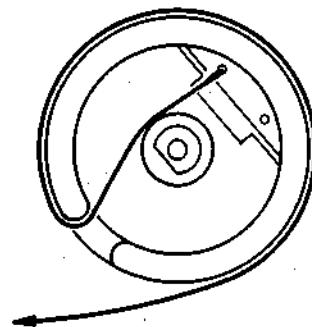
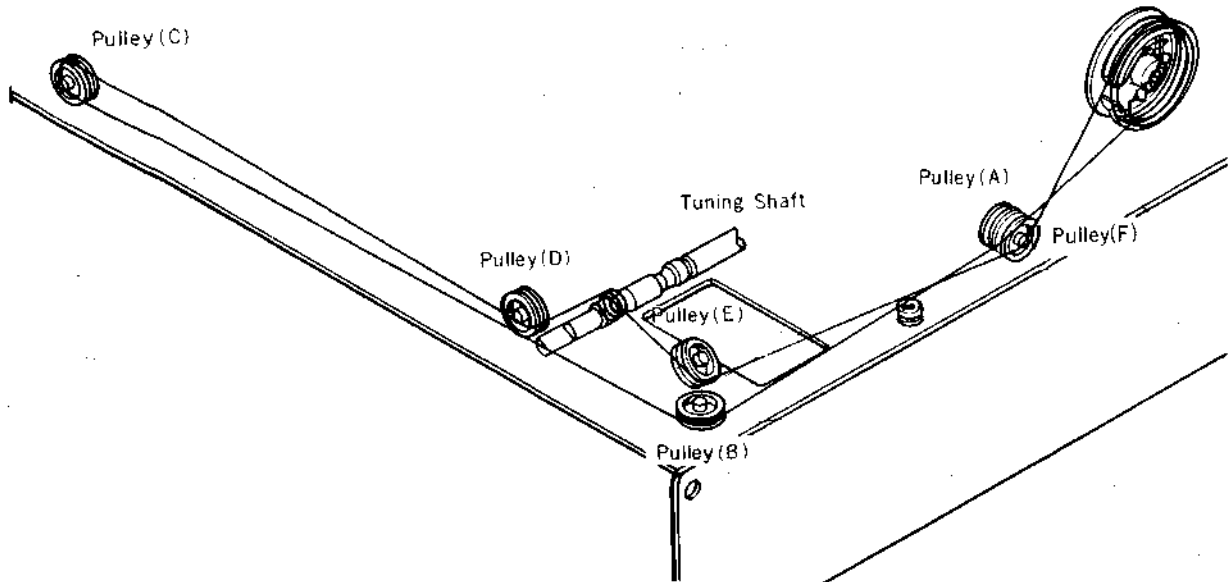

Fig. 2-11-2 Dial Cord Stringing
Fig. 2-11-3 Complete Dial Cord Stringing
- (f) Wrap the cord clockwise around the drum as shown in Fig. 2-11-2 and run the cord around the pulleys (A), (B), (C) and (D). See Fig. 2-11-3.
- (h) Run the cord over pulleys (E) and (F).